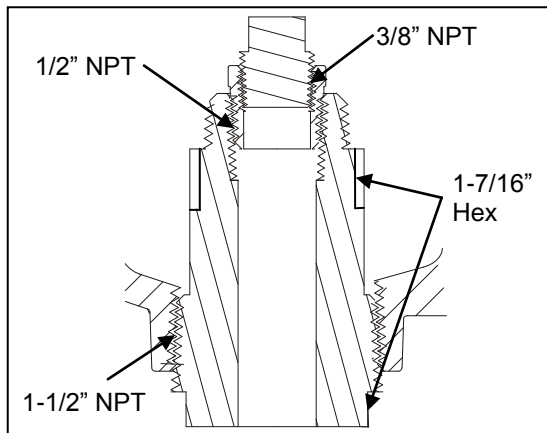

Figure 2
Step 1: (See Figure 2)
Step 2: (See Figure 2)